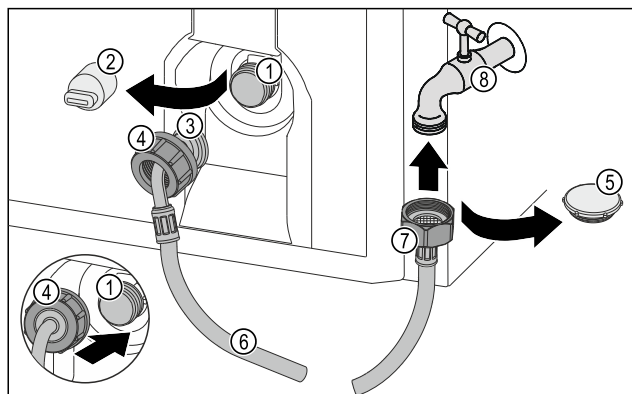

Fig. 19 Example illustration
- ▶ Remove the cover Fig. 19 (2).
- ▶ Push the nut Fig. 19 (4) over the angled hose end Fig. 19 (3) to the end and hold it in place.
- ▶ Carefully place the nut Fig. 19 (4) on the solenoid valve Fig. 19 (1) and hold it in place.
- ▶ Screw the nut Fig. 19 (4) by hand straight onto the thread until it is securely and firmly seated.
- ▶ Remove the closure cap Fig. 19 (5).
- ▶ Place the straight end of the hose Fig. 19 (7) on the tap Fig. 19 (8).
- ▶ Tighten the nut at the straight end of the hose Fig. 19 (7) in a clockwise direction.